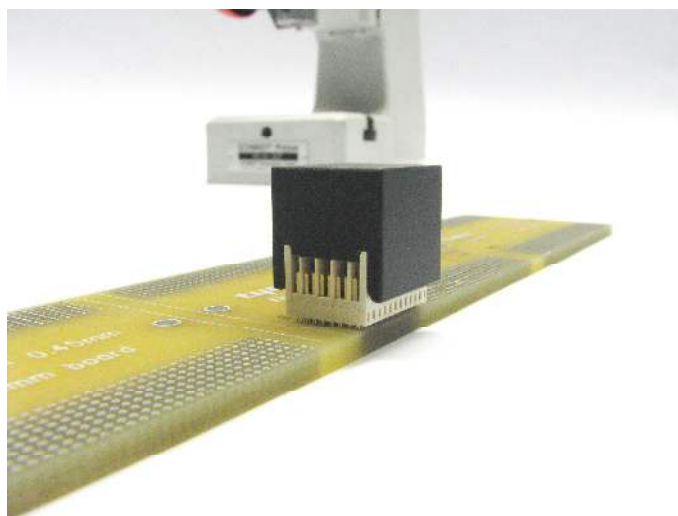

Figure 6
2. After that the insertion block is fitted onto the connector. The flat surface must show upwards (see figure 6).